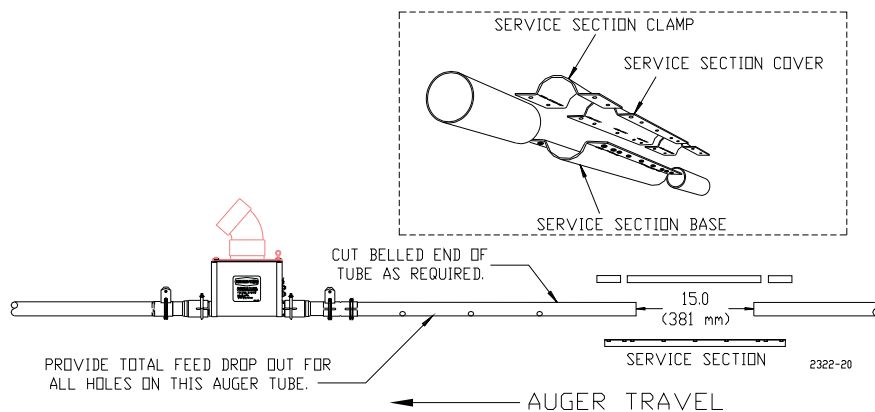

Figure 47. Service Section Installation
13. Install the service section as shown in **Figure 47**.